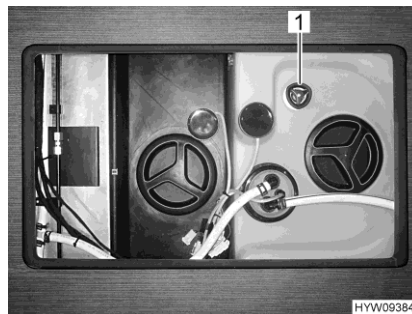

Fig. 205 Rotary handle (water tank)
Opening: ■ Turn the rotary handle (Fig. 205,1) on the water tank in an anticlockwise direction up to the first catch. Excess water will drain away leaving approx. 20 litres in the tank.
Closing: ■ Turn the rotary handle (Fig. 205,1) on the water tank in a clockwise direction as far as it will go.
- Turn the rotary handle (Fig. 205,1) on the water tank in an anticlockwise direction as far as possible beyond the resistance to fully open the drainage opening.